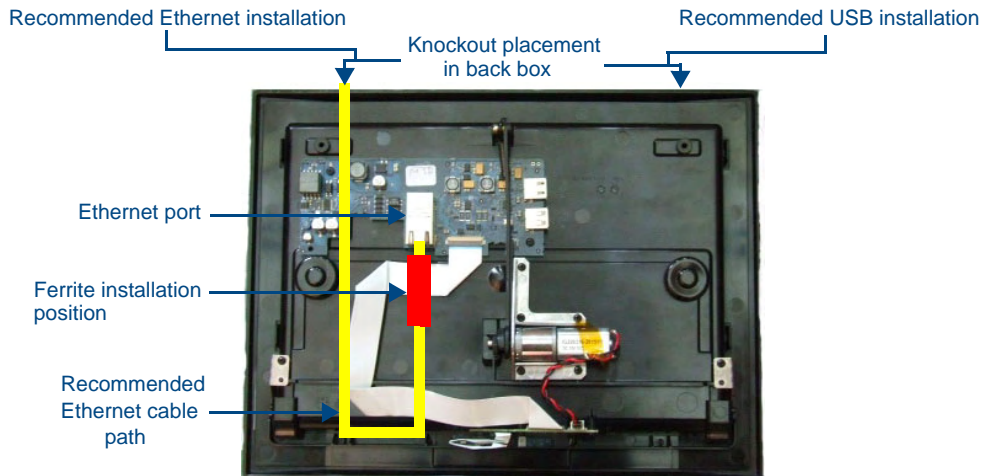

FIG. 13 MVP-WDS-9 - Ethernet cable path
7. Attach the included snap-on ferrite to the Ethernet cable, as close to the RJ-45 connector as possible. Attach the cable to the Ethernet Port (FIG. 13).